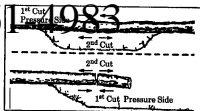

Figure 22
- Give special attention to logs under strain to prevent the saw from pinching. Make the first cut on the pressure side to relieve the stress on the log. Figure 22.